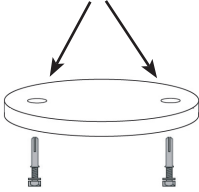

figure 3
2. Remove the base plate of the detector (figure 3) by turning the base plate anticlockwise (to the left).